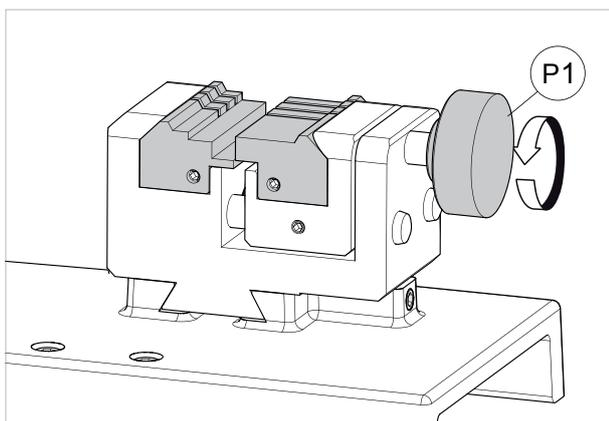

Fig. 29
- 2) Loosen the knob (P1) by a couple of turns (Fig. 29).